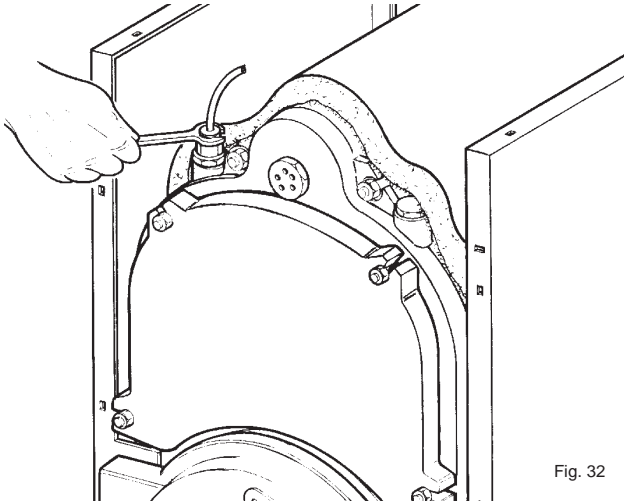

Fig. 32
5.10 Overturn the capillary tube of water gauge 6 (fig. 1) and screw its union to the relative sheath on the front part of the boiler unit (fig. 32).